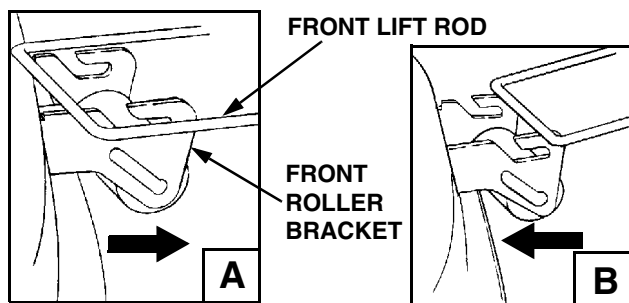

Figure 45
10. Raise the implement lift handle to its highest setting. Slide the mower deck forward, so the front lift rod rests to the rear of, and free of, the front roller bracket slots of the deck (Refer to Figure 45-A).
11. Raise the front lift rod upward and slide the mower deck rearward. Lower the front lift rod so it rests on the front roller bracket of the deck, forward of the slots (Refer to Figure 45-B).